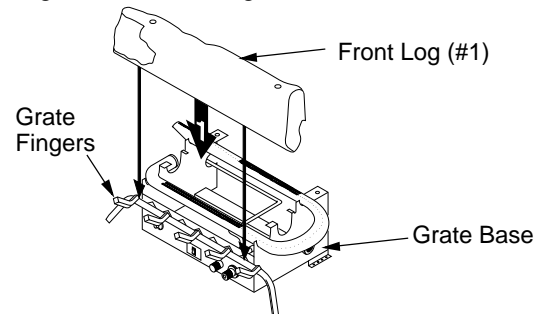

Figure 24 - Installing Front Log (#1) (CCL3930PR/NR Shown)
1. Place the front log (#1) on the grate fingers. Make sure the front log rests firmly between the grate fingers and the grate base (see Figure 24).